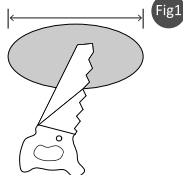

Fig1
**1.** Turn off the power before installation. Remove the existing fixture if applicable. Determine the location and necessary hole cutout diameter using the supplied table and cut the ceiling hole with the listed approximate diameter, see Fig1.